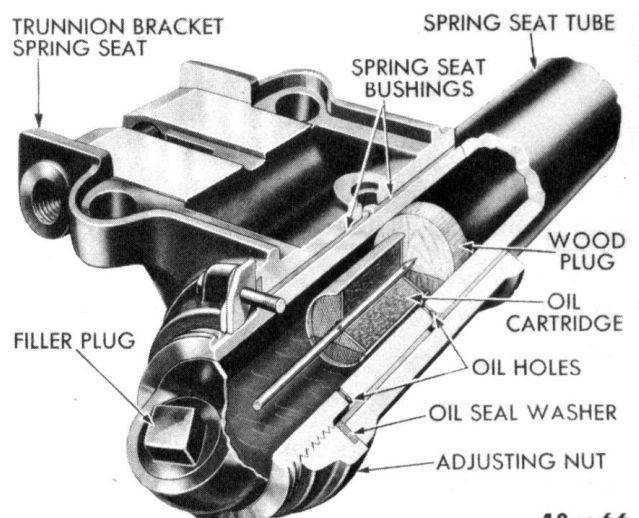

Fig. 140—Trunnion Bracket Spring Seat Assembly (Cutaway View)
- (1) Remove spring assembly as described in Paragraph 113.
- (2) Remove trunnion bracket spring seat adjusting nut clamp bolt and lock plate (Fig. 140).